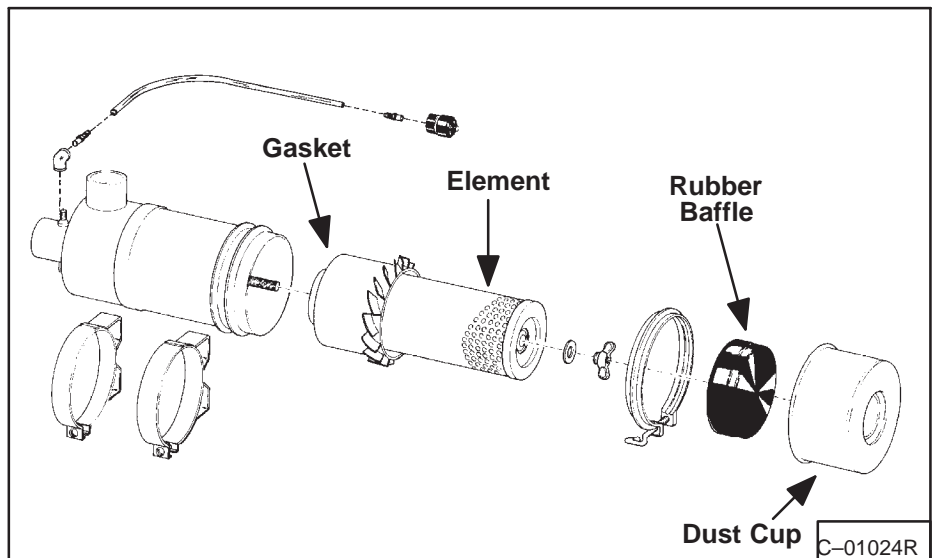

Fig. 1-13 Air Cleaner Assembly
1. Remove and clean dust cup every day (Fig. 1-13).
**NOTE: Be sure (1) gasket surfaces are clean before installing new element and (2) be sure gasket is in correct place.**